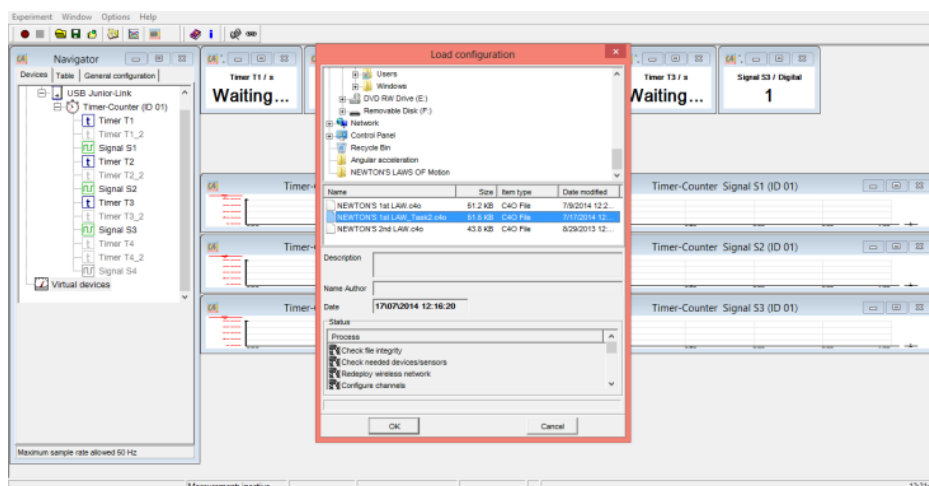

Figure 3.10: Load configuration file.
- 6- From the window shown in Figure 3.10, select “Desktop”, then “Newton’s laws of motion”. Load the configuration file “Newton 1st law”. This configuration file makes the light barriers measure the time at the instant the plate barrier cuts the light beam.
15- From the window shown in Figure 3.10 above, select “Desktop”, then “Newton’s laws of motion”, load the configuration file “Newton’s 1st law-Task2”. This configuration file changes the function of the light barriers to measure the time during which the flat barrier plate passes through the light beam.
- 2- From the window shown in Figure 3.10, select “Desktop”, then “Newton’s laws of motion”, load the configuration file “Newton 2nd law”.